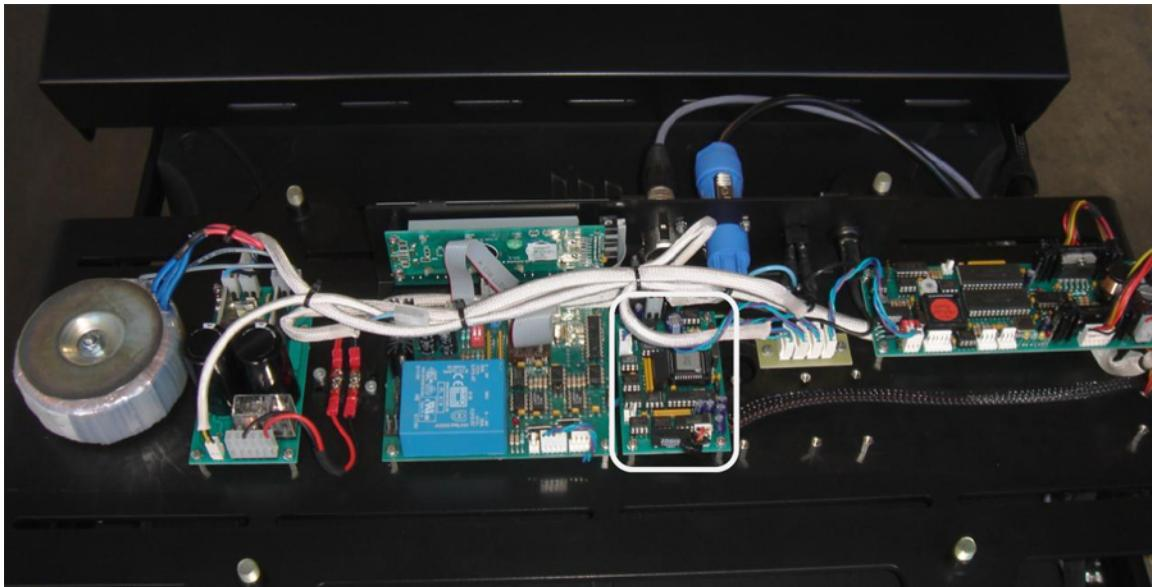

Figure 3-47 DMX/RS232 Board Location in Head Box
8. Locate the DMX/RS232 board in the Head Box (highlighted in **Figure 3-47**).